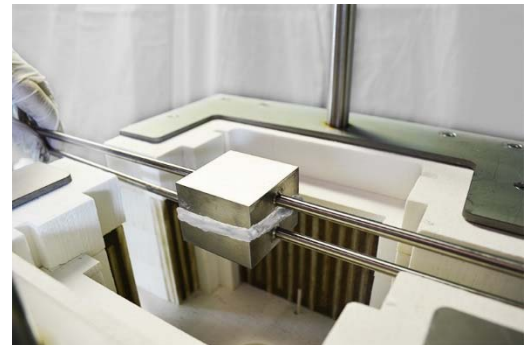

Figure 20
13. Carefully place the manifold assembly with cell into the furnace (Figure 20).